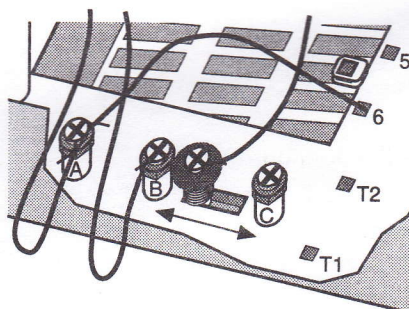

FIG. 9
- 4) To test the switch, push the slider back and forth. The washer should touch post B each time. When the slide is up and when you push it down, the marker should touch post C. Your console should look like this: (Figure 9)